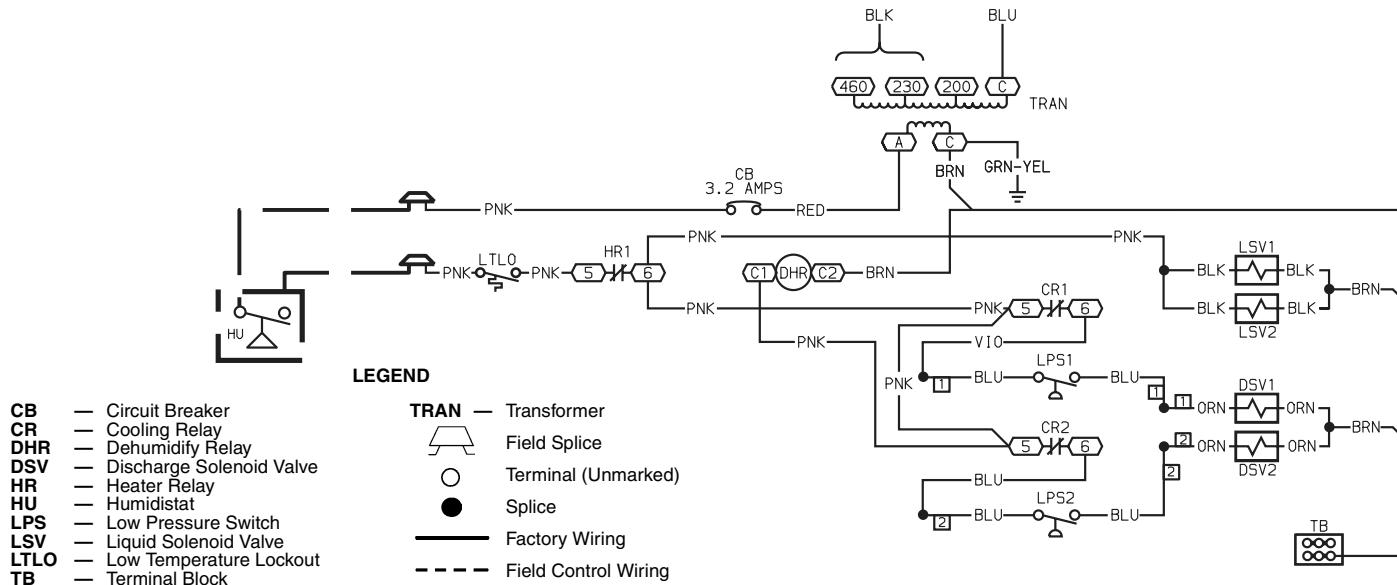

Fig. 13 — Typical Perfect Humidity Dehumidification System Humidistat Wiring (208/230-v Unit Shown)
3. Use a wire nut to connect humidistat cable into low-voltage wiring as shown in Fig. 13.